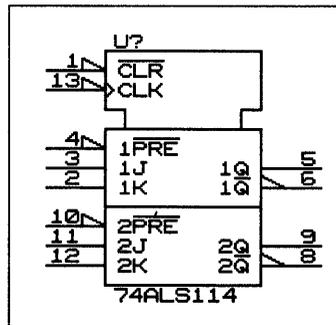

Figure 19-14. The 74ALS114 IEEE part.
- ❖ You have more freedom when drawing the vector components. In particular, some components must be placed outside the part body. For example, an input ACTIVE_LOW must be placed to the left of the part body, as shown by pins 1, 4, 10, and 13 in figure 19-14. Inputs placed to the left of the part body have a negative X offset in the vector definition. See figure 19-13.
IEEE symbols usually have a rectangular outline. They often consist of a control section on top of a main signal section. There are usually indentations in the outline near the bottom of the control section. Normally the indentations are 0.1 inch high. Figure 19-14 shows an example.